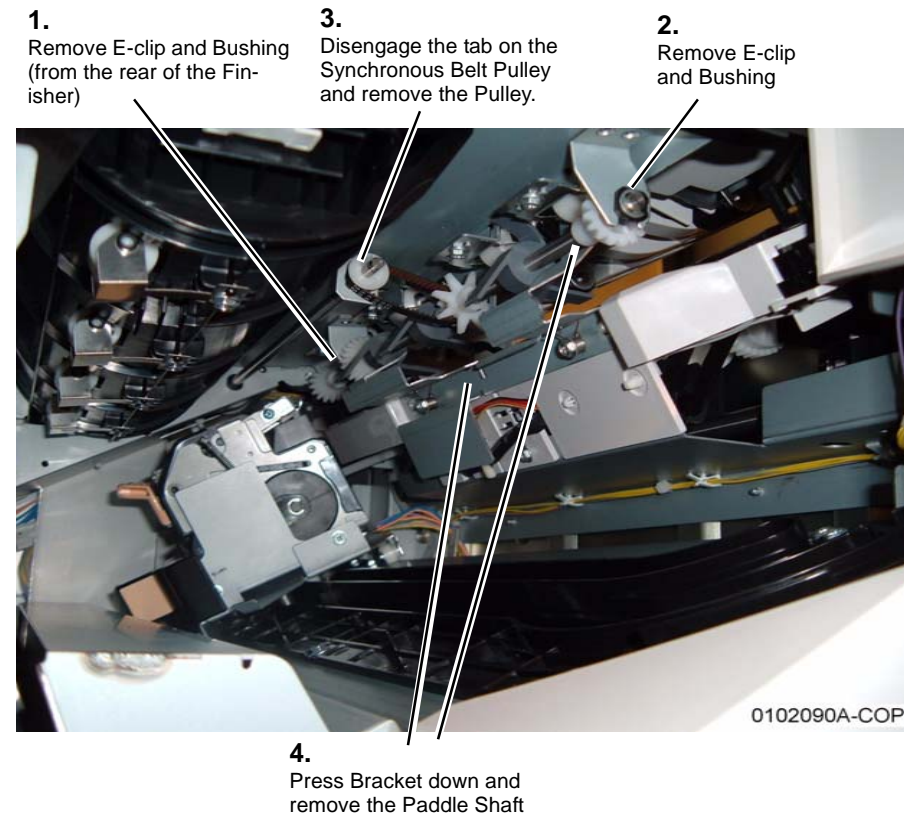

Figure 1 Removing the Paddle Shaft
6. Remove the Paddle Shaft (Figure 1).